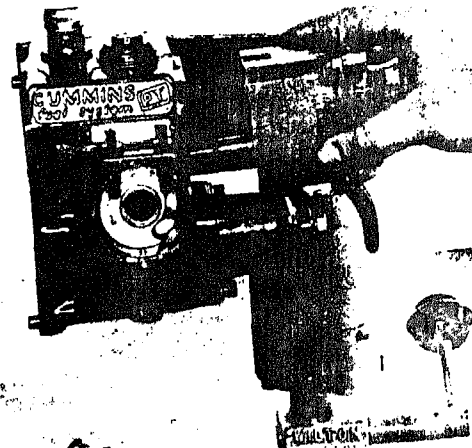

Fig. 501-14 Removing gear pump
3. Lift gear pump off and discard gasket. Fig. 501-14.